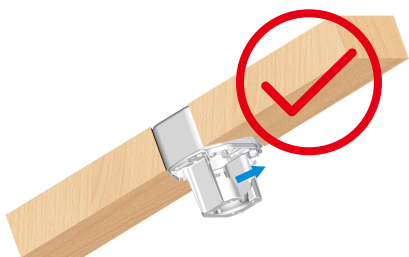
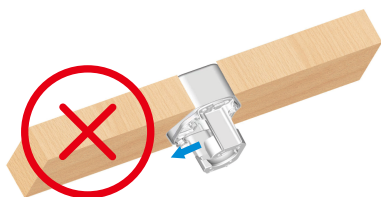

Fig. 5.4
Fig. 5.5
1. When installing the mounting bracket, the bracket groove should be facing upward, as shown in Fig. 5.4. Do not install the bracket with the groove facing downward, as shown in Fig. 5.5.